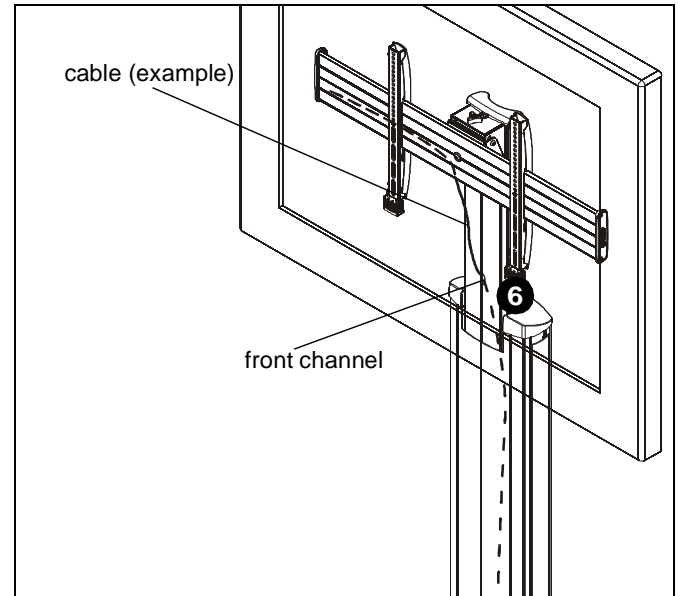

Figure 11
6. Route cables from display through front channel of column assembly. (See Figure 11)